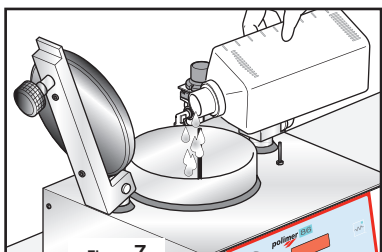

Figure 7
Fig. 7 : Pour a quantity of the distilled water into the polymerization chamber (6) that corresponds to the type of job being carried out, then lower the chamber lid.